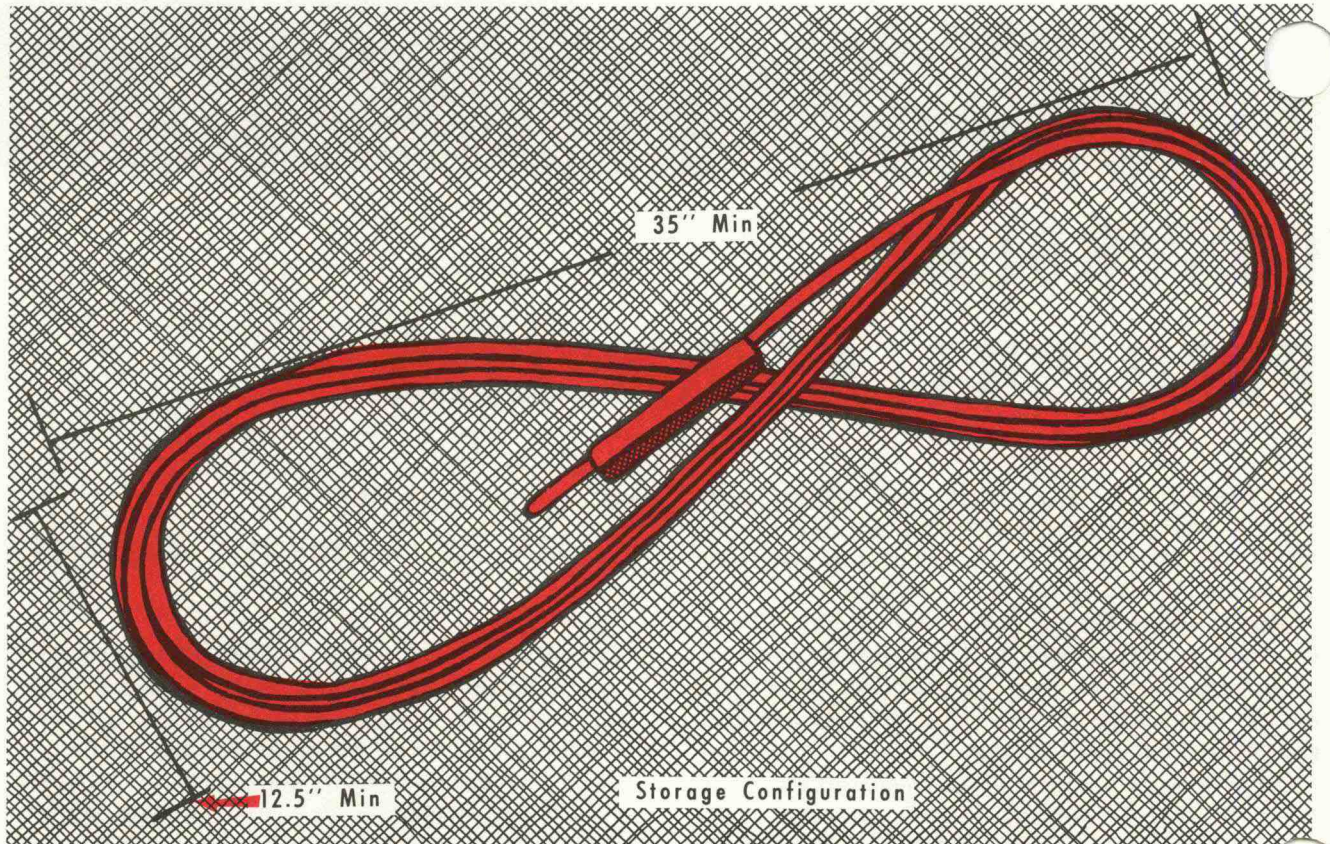

FIGURE 2
3. **DO NOT COIL CONTROLEX IN A CIRCULAR COIL.** This will permanently damage the internal races by stretching. Coiling in a "figure eight" is proper and eliminates stretching. (Refer to Figure 2.) The "figure eight" essentially limits the angle of bend to 180 degrees since each second loop is subtractive from the first in computing the angle of bend.